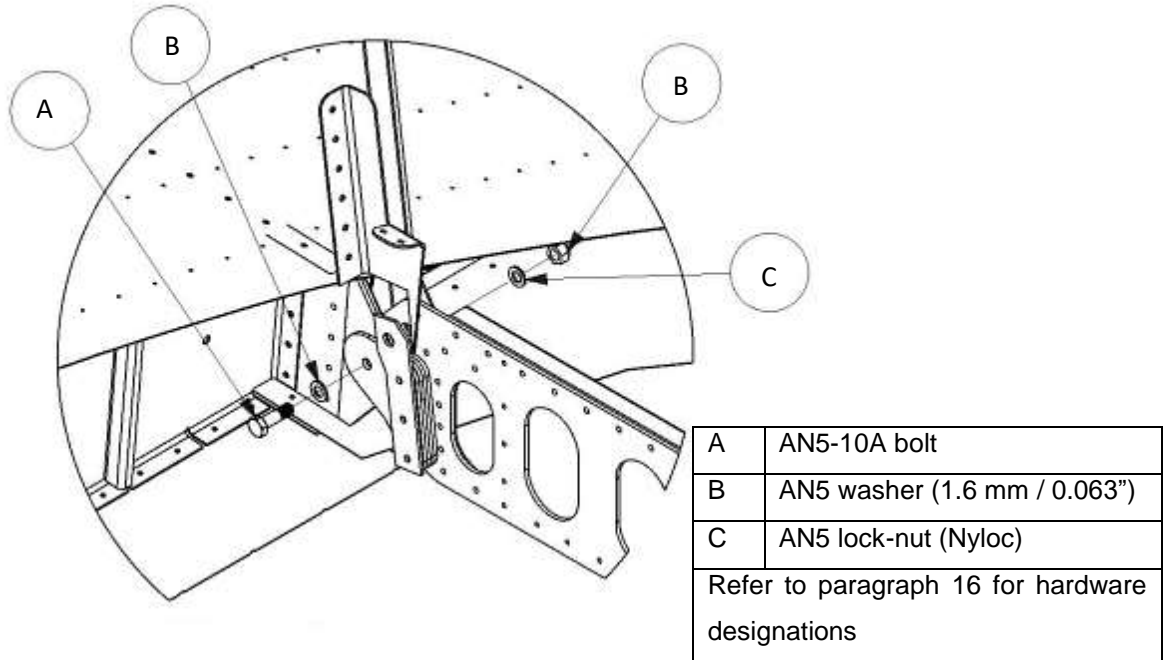

Figure 6: Rear wing spar to fuselage connection.
- Tighten the rear spar bolt to the recommended value (refer to paragraph 1.5.2). Observe the correct placement of washers (refer to Figure 6).